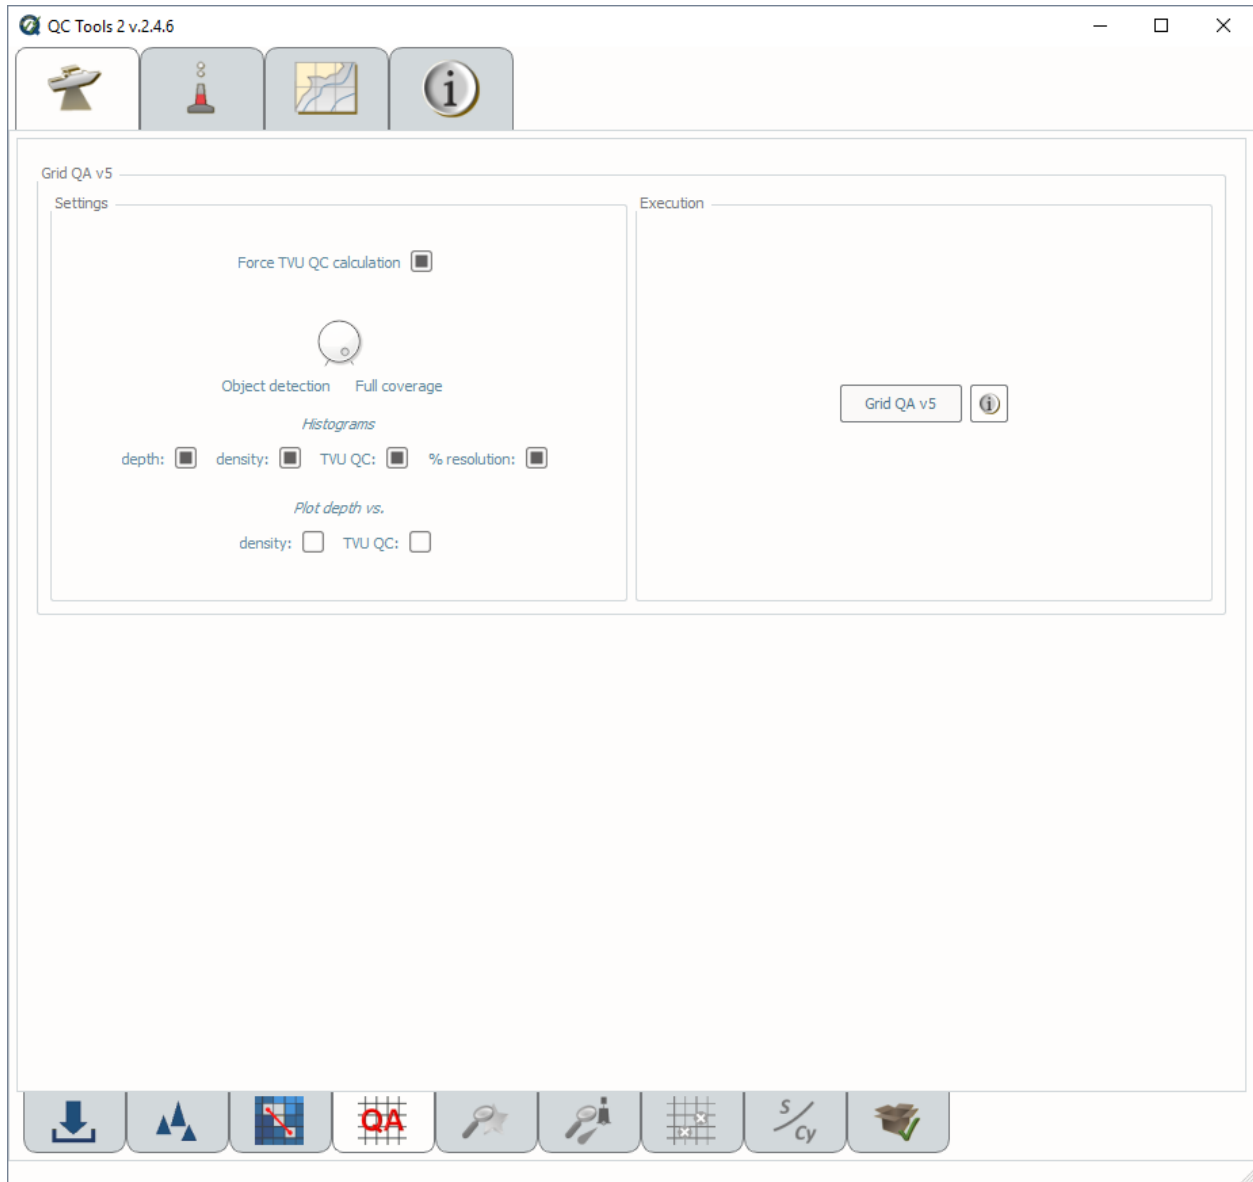

Fig. 2.19: The **Grid QA** tab.
- Select the **Grid QA** tab (Fig. 2.19) on the bottom of the QC Tools interface.